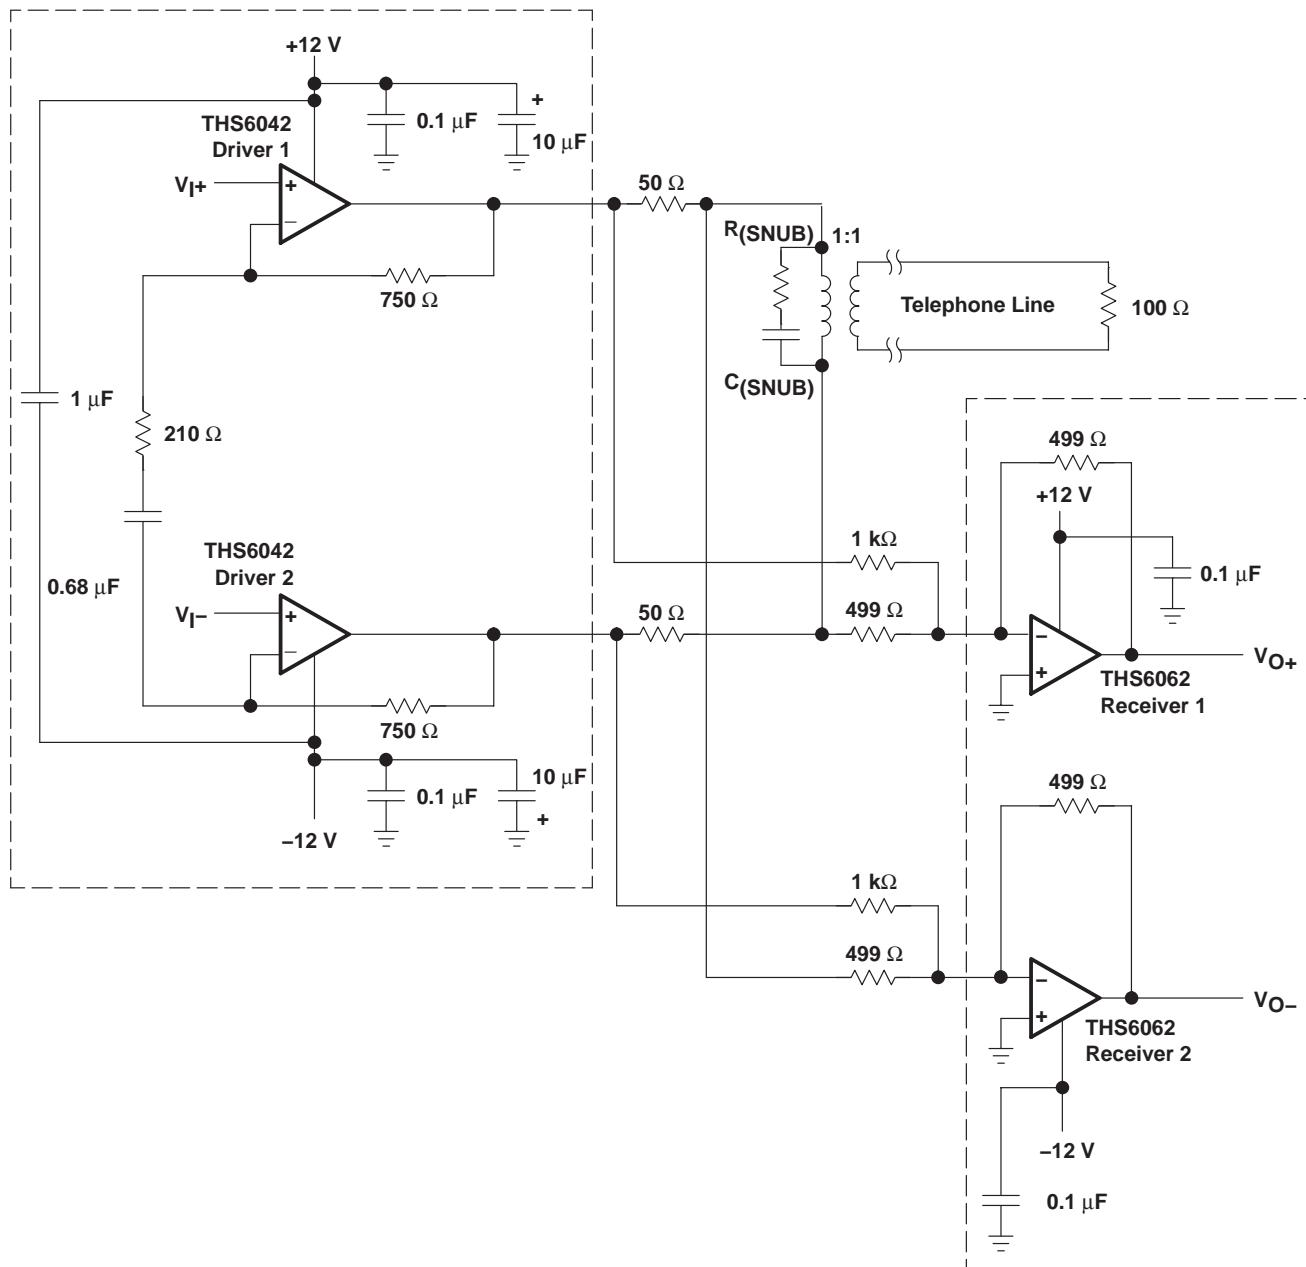

Figure 37. THS6042 ADSL Application With 1:1 Transformer Ratio
The THS6042/3 were primarily designed as line drivers for ADSL (asymmetrical digital subscriber line). The driver output stage has been sized to provide full ADSL power levels of 13 dBm onto the telephone lines. Although actual driver output peak voltages and currents vary with each particular ADSL application, the THS6042/3 are specified for a minimum full output current of 230 mA at  $\pm 6$  V and 300 mA at the full output voltage of  $\pm 12$  V. This performance meets the demanding needs of ADSL at the client side end of the telephone line. A typical ADSL schematic is shown in Figure 37.
- Differential power supply decoupling – The THS6042/3 were designed for driving low-impedance differential signals. The 50- $\Omega$  load which each amplifier drives causes large amounts of currents to flow from amplifier to amplifier. Power supply decoupling for differential current signals must be accounted for to ensure low distortion of the THS6042/3. By simply connecting a 0.1- $\mu$ F to 1- $\mu$ F ceramic capacitor from the  $+V_{CC}$  pin to the  $-V_{CC}$  pin, differential current loops will be minimized (see Figure 37). This will help keep the THS6042/3 operating at peak performance.